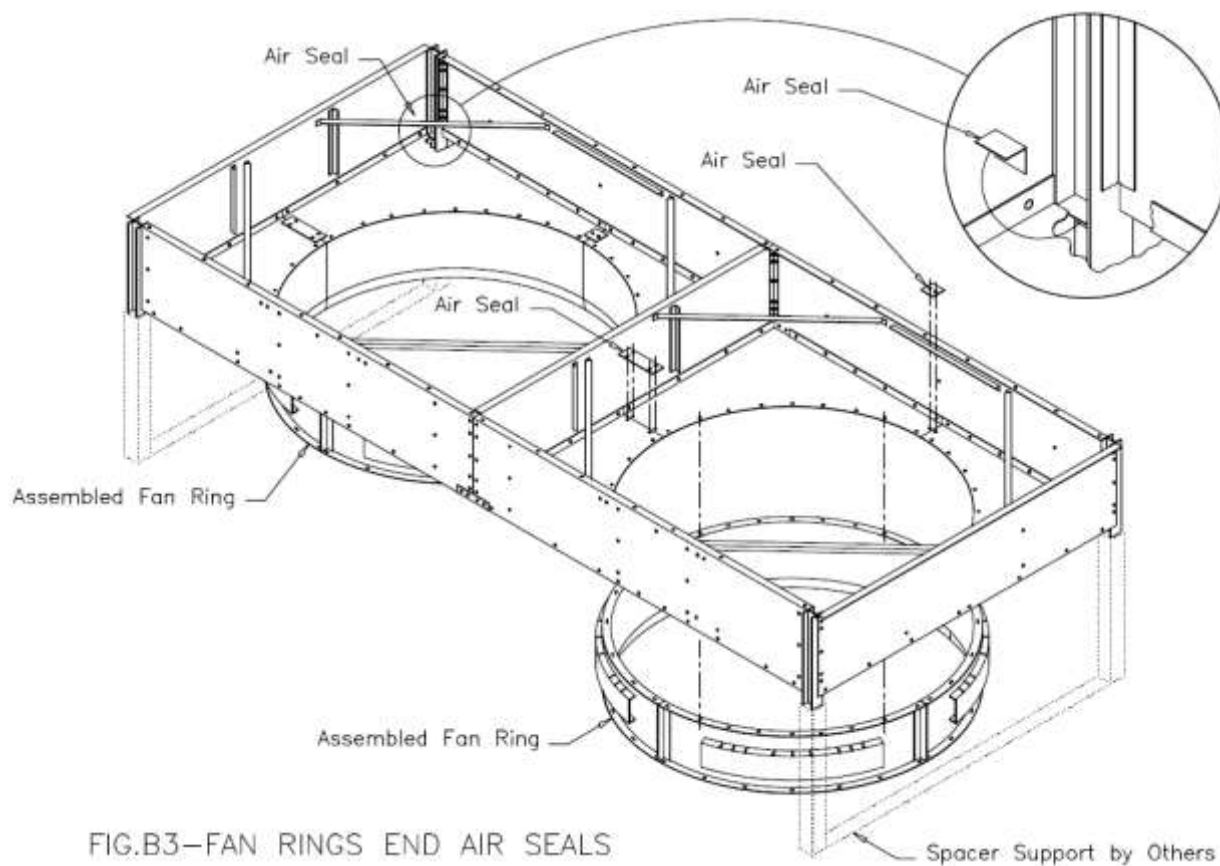

FIG.B3-FAN RINGS END AIR SEALS
4. Assemble four pieces of fan ring. Assemble fan ring to bottom panels. Attach air seals to bottom panels. See Fig. B3.